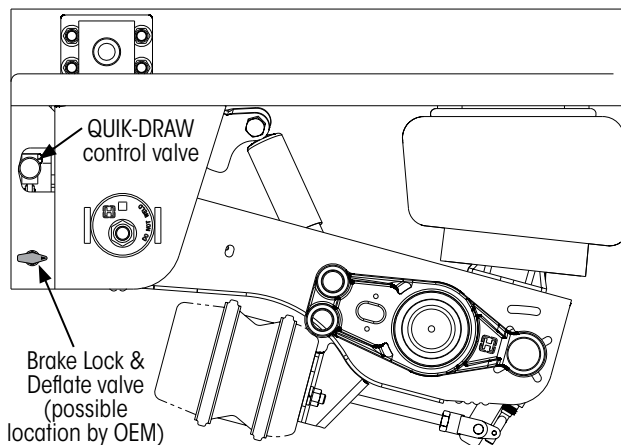

Figure 17: QUIK-DRAW control valve location
5. **Pull** the QUIK-DRAW control valve knob (Figure 17) out to its fully extended position. This pneumatically retracts the locking pins.
6. **Turn** the Brake Lock & Deflate valve (Figure 17, included with kit AKSS0001) to the DUMP position.
4. Pull the QUIK-DRAW control valve knob (Figure 17 on page 13) out to its fully extended position. This pneumatically retracts the locking pins.